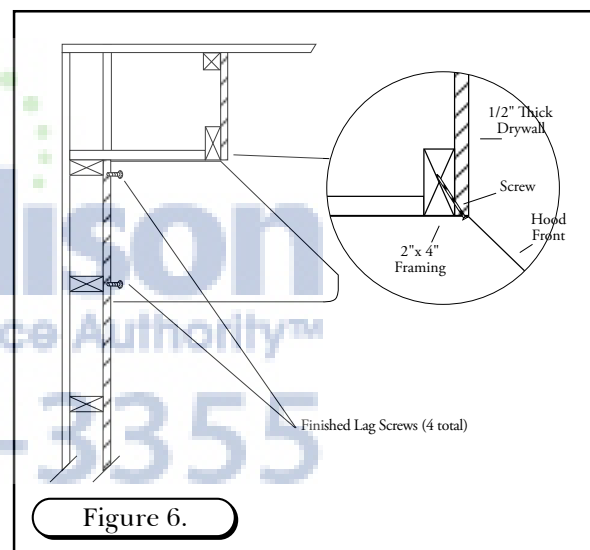

Figure 6.
3. Add 2"x4" wood framing block to aid in securing the top and rear of the hood to the wall. (See Figure 6)